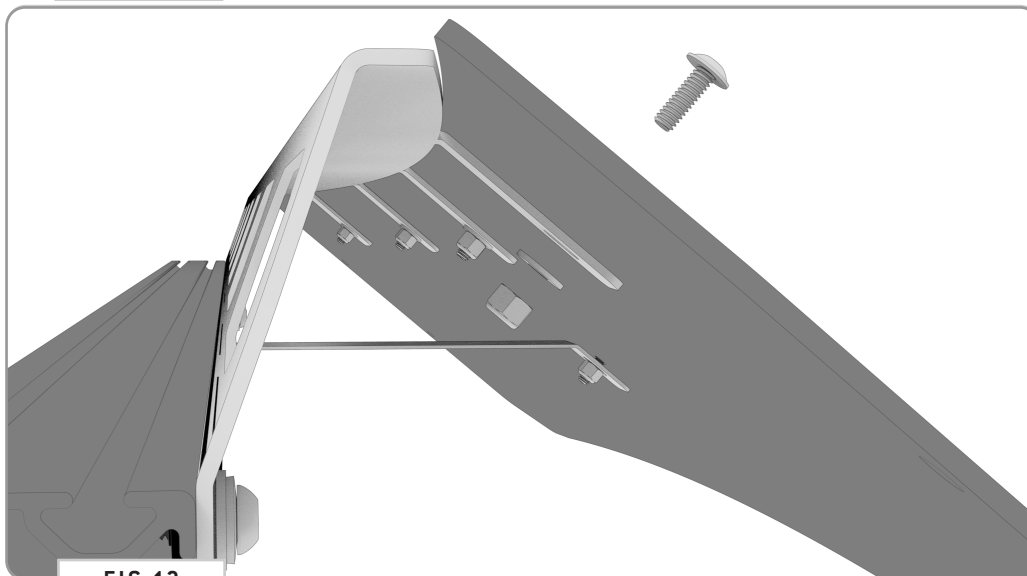

FIG 13
**4.5 Attach Front Fairing:** Attach the **Front Fairing** to the Assembly using **1/4-20 x 0.75 Flanged Button Head Screws**, **Flat Washers** and **Nylon Locknuts** (**FIG 13**).